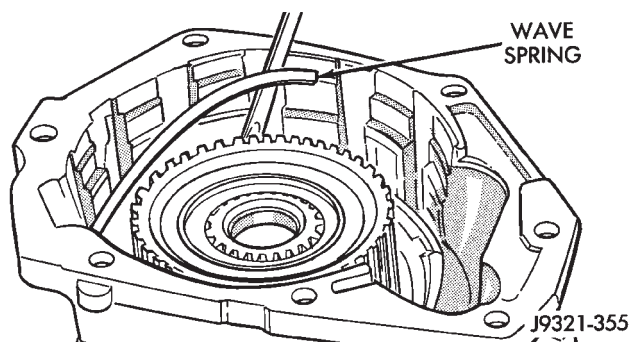

Fig. 307 Overdrive Clutch Wave Spring Installation
- (2) Install wave spring on top of reaction ring (Fig. 307). **Reaction ring and wave ring both fit in**